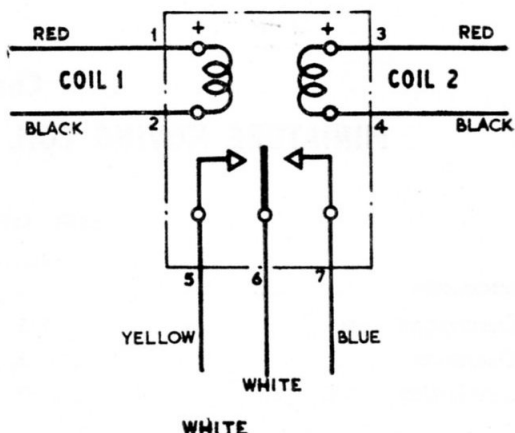

Fig. 2. Circuit diagram
4. The coil connections are soldered to wires which pass through insulated holes to the terminal base. Leads for external connection to the relay usually measure 6 in. long, and are soldered to the relay terminals. The colour of the leads is as shown in the circuit diagram in *fig. 2*.
5. The circuit diagram (*fig. 2*) shows the connections when the relay is viewed on the